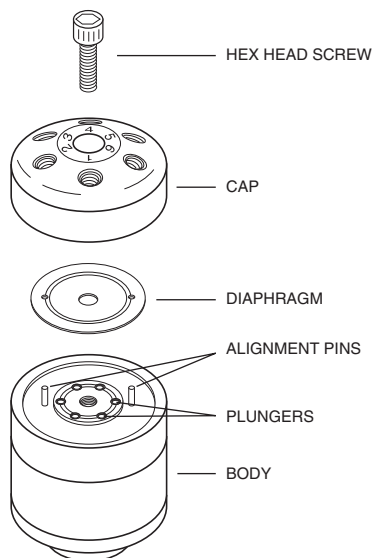

Figure 2:
2. With a 9/64" hex wrench, remove the hex head screw from the center of the valve cap (refer to **Figure 2**), and lift the cap from the two alignment pins. Set the cap aside in a safe, clean spot, with the polished side up so that it doesn't get scratched.